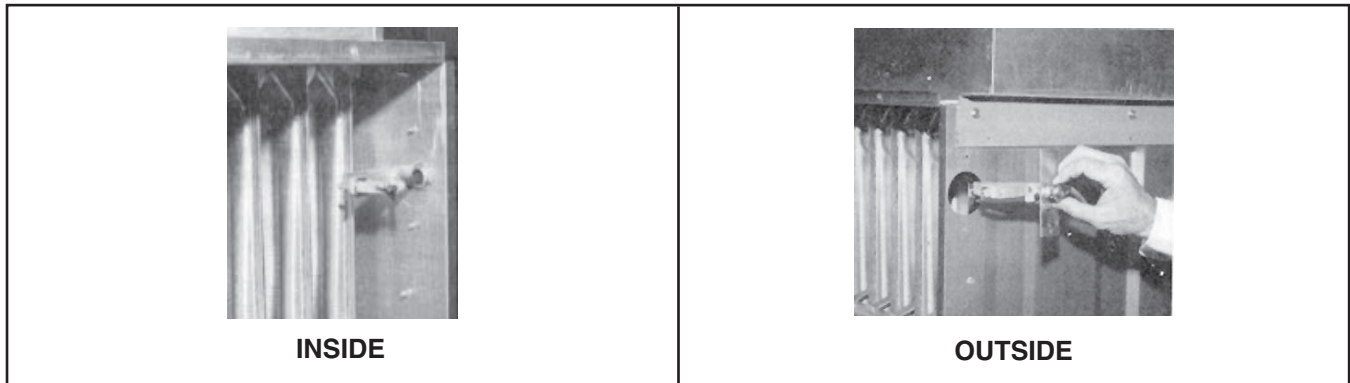

Figure 27. Limit Switch Access
- Depending on accessibility, the limit switch may be serviced from either outside the unit or inside through the access panel in the discharge duct (see Figure 27). When units are installed side by side, the service access panel must be in either the top or bottom of the ductwork for limit switch service (refer to Coupling Additional Furnaces Together and Ductwork Requirements sections).